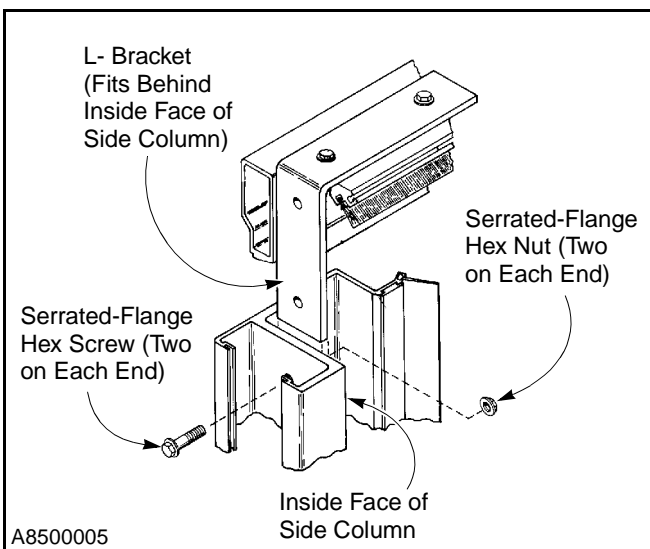

Figure 18
2. Attach the spreader assembly to the inside face of each side column using two $\frac{3}{8}$ -16 x $1\frac{1}{4}$ -in. serrated-flange hex screws and nuts at each end of the assembly. Face the spreader so the brush is toward the front of the door. (See Figure 18.)